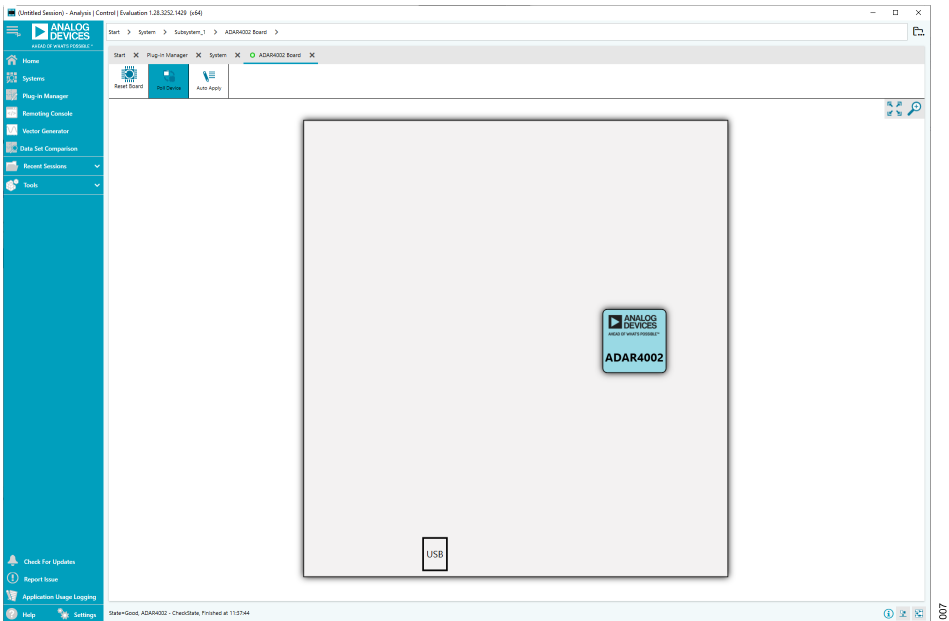
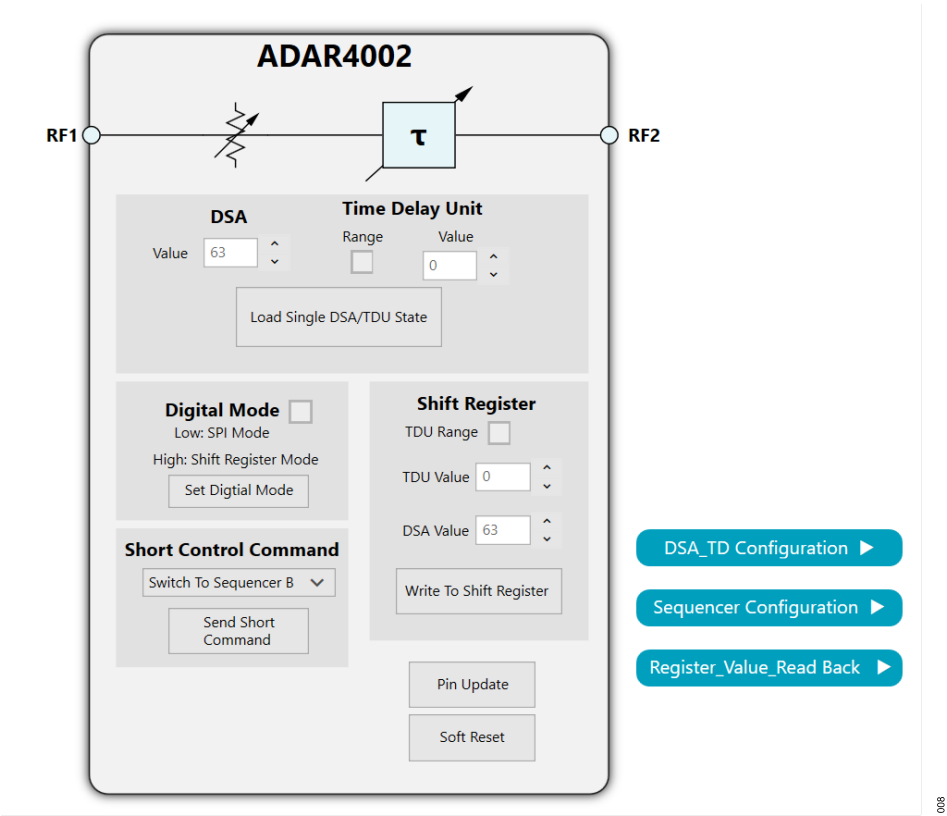

Figure 7. Click on the ADAR4002 Chip Plugin to Launch the Main GUI
Figure 8. ADAR4002 Chip Plugin (Main GUI)
8. The **ADAR4002 Board** tab opens, with the **ADAR4002** chip plug-in icon, shown in Figure 7. Double click the **ADAR4002** chip icon to open the **ADAR4002 Chip Plugin (Main GUI)** (see Figure 8).
10. On the main GUI, the user can set all the **DSA** and **Time Delay Unit** values of the variable attenuation and phase (VAP) block. Note upon power up, the VAP is set to the maximum attenuation and minimum time delay, as seen in Figure 8. After changing any value, click **Load Single DSA/TDU State** to write the new values over the SPI onto VAP.
The main GUI shown in Figure 8 controls the following ADAR4002 functions:
The main GUI also has the following three subviews as shown in Figure 8 that open when clicked and give access to control of the various other functions of the chip.